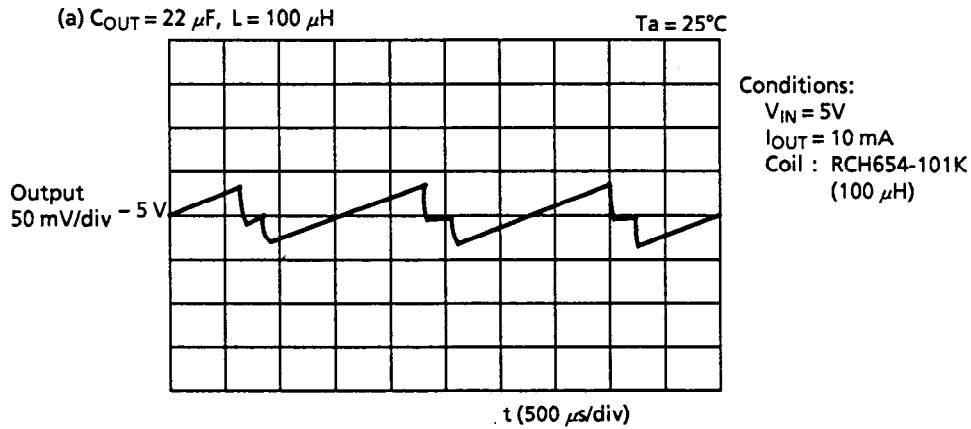

Figure 8
Using an inductor with a large L value decreases I_{PK} and I_{OUT} . Since the energy accumulated in the inductor is $\frac{1}{2}L(I_{PK})^2$, I_{PK} decreases in steps of squares offsetting the increase of L, and the energy decreases overall. Accordingly, stepping up at low voltages is difficult and the minimum operating voltage must be specified as a high value. However, the DC resistance loss in L and the M1 transistor becomes small because of the reduced I_{PK} , and the efficiency is improved overall. As indicated in the equation (16), the ripple voltage can be reduced by decreasing I_{PK} . Figures 8 to 10 show the output voltage waveforms when the L value and C_{OUT} value are changed.